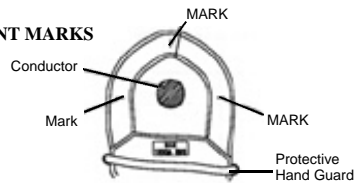

Figure 3. Alignment Marks
In order to meet the meter accuracy specifications when making a current measurement, the conductor must be inside the jaws and centered within the indicated marks as much as possible. (see Figure 3)
- 2) Press this button momentarily to cycle through maximum, minimum, average and present readings. The MAX, MIN, AVG annunciator turns on respectively to indicate what value is being displayed. See Figure 3)